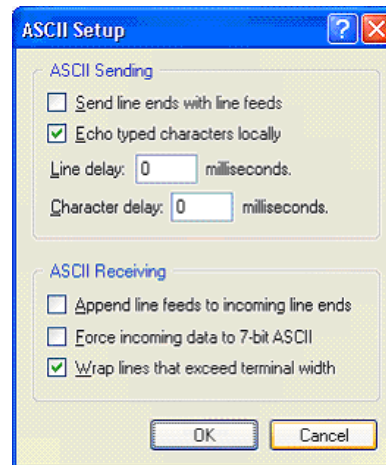

Figure 5-11: ASCII Setup Screen
14. Match the *ASCII Setup* screen (Figure 5-11), then click **OK**.